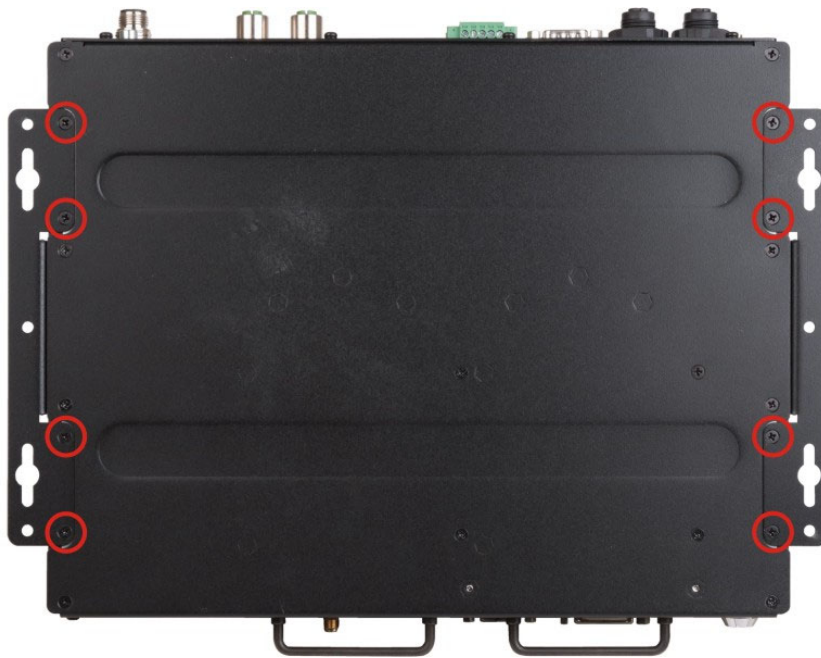

Figure 3-14: Mounting Bracket Retention Screws
Step 3: Secure the brackets to the system by inserting four retention screws into each bracket (**Figure 3-14**).